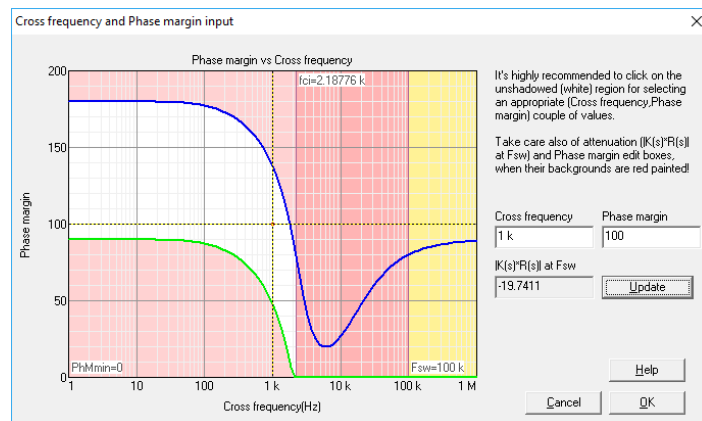

Figure 8: outer loop solution map
- c) Solution map: select $f_c=1\text{kHz}$ and $\text{PM}=100$ degrees. See Figure 8.